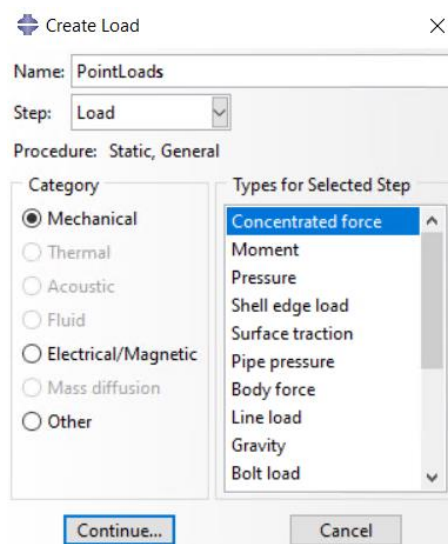

Figure 2-4 – The Create Load dialog box.
- When defining the load, use **Types for Selected Step: Concentrated force** in the **Create Load** dialog box. See Figure 2-4.